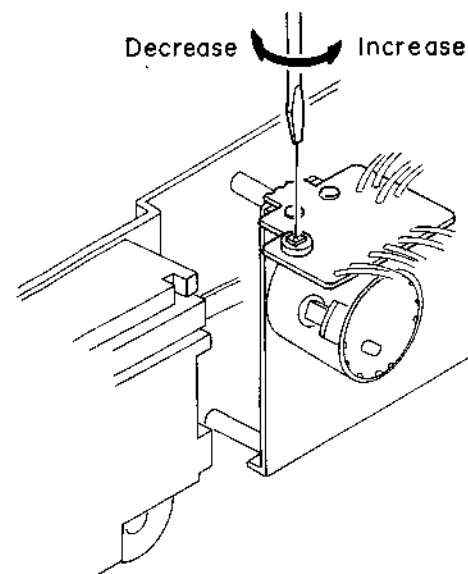

Fig. 4.32
- (a) Remove the Top Cover Ass'y, referring to item 2.1.
- (d) Referring to Fig. 4.32, adjust the Tape Speed Adjustment Volume VR501 on the Speed Cal. P.C.B. Ass'y to obtain 3,000 Hz on the Frequency Counter.